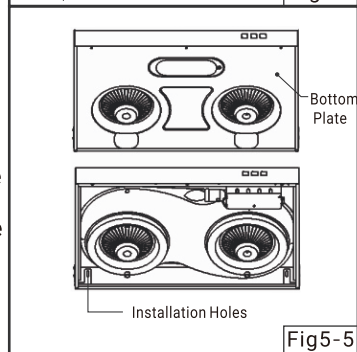

Fig5-5
- Remove 2 hangers on both sides. Detach the bottom plate. Install the range hood to sleeve anchors through the holes on the back sides of range hood. Tightly screw the nut of sleeve anchor. (Fig. 5-5)